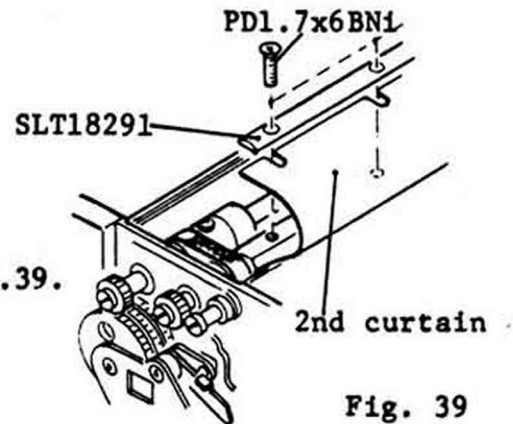

Fig. 39
- c. Loosen three PD1.7x6BN1 screws for SLT18291 Curtain fastener as shown in Fig.39.